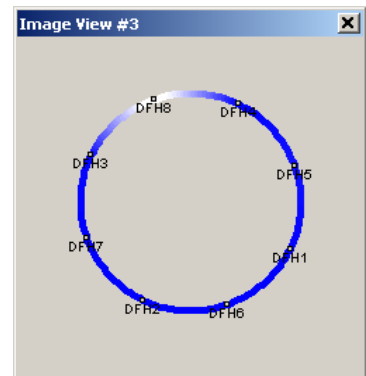
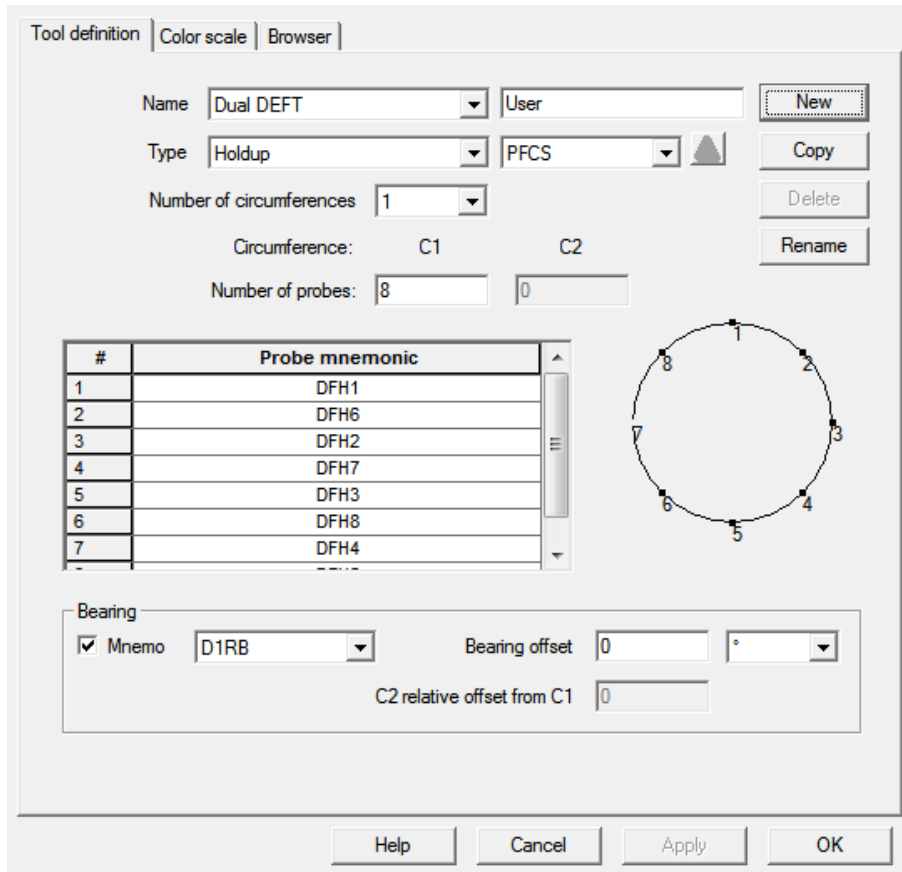

Fig. B05.19 • Dual tool configuration
Fig. B05.20 • Dual DEFT definition
- Change the probe mnemonics in order to meet the relationship between probe index and mnemos according to Fig. B05.19 and Fig. B05.20, starting with DFH1.
- Set the relative tool bearing channel to D1RB, Fig. B05.20.